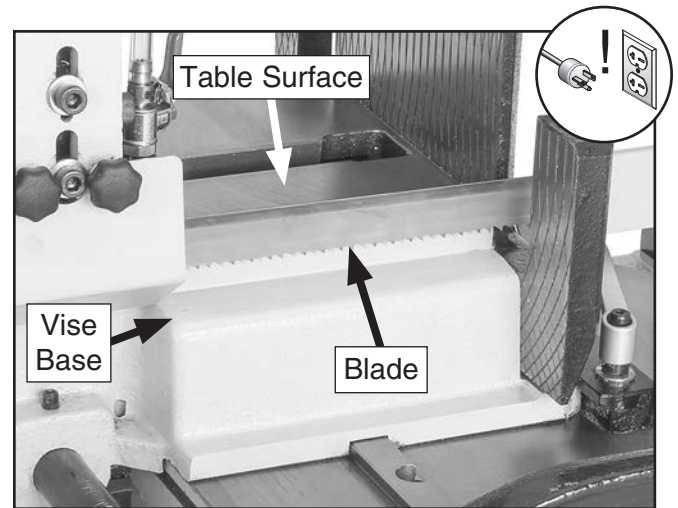

Figure 94. Example of blade below table surface but not contacting vise base.
2. Lower headstock all the way. When headstock stops, blade teeth should be just below table surface, but not contacting vise base (see **Figure 94**).